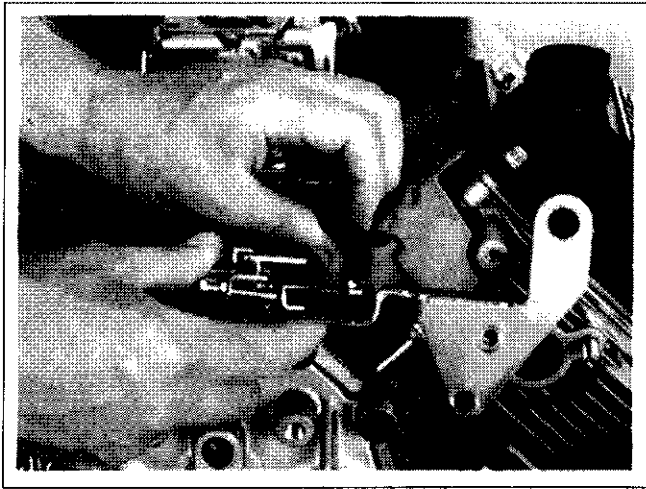

Figure 9-18. Disconnecting Choke Linkage from Actuator Lever.
3. Remove the choke linkage from the choke actuator lever and carburetor. See Figure 9-18.